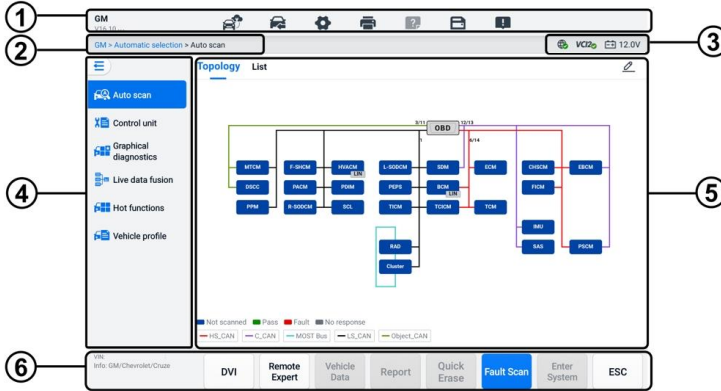

Figure 6-8 Diagnostics Main Menu Screen
The Diagnostics Main Menu screen (see Figure 6-8 Diagnostics Main Menu Screen) navigates users to read codes, clear codes, or perform comprehensive automotive diagnostic functions, and so on. After the function is selected, the tablet will establish a communication with the vehicle through the VCI2, and enter the corresponding function menu or selection menu based on your selection.
1. Tap the **Diagnostics** application button on the MaxiSys Job Menu. Choose the corresponding vehicle information and enter the Diagnostics Main Menu screen (see Figure 6-8 Diagnostics Main Menu Screen).